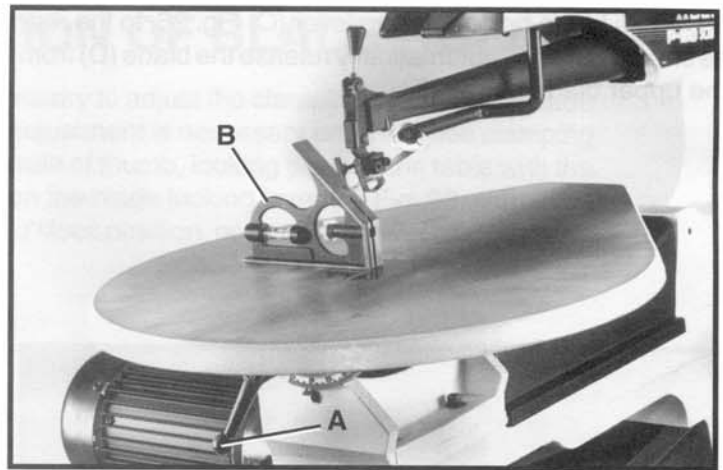

Fig. 30
1. Loosen table lock handle (A) Fig. 30, and tilt the table all the way to the left as shown, then tighten table lock handle.
2. Using a square (B) Fig. 30, check to see if the table is 90 degrees to the saw blade, as shown.